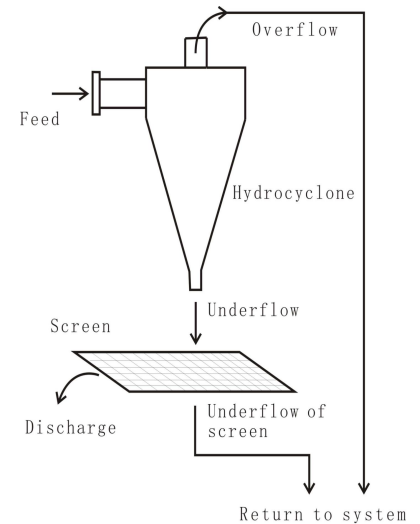

Figure 2
5.3. Working principle of sand separator refer to figure 2.